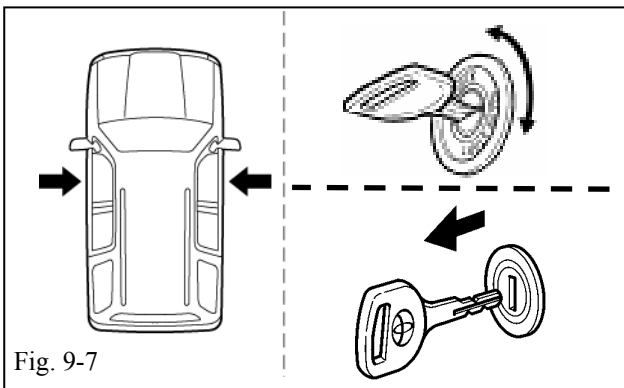

Fig. 9-7
- (j) Verify that all doors are closed. (Fig. 9-7)
- (1) Do not close the Hood.
- (k) Turn the Key to the "ON" position and back to the "OFF" position. (Fig. 9-7)
- (l) Remove the Key from the ignition switch. (Fig. 9-7)